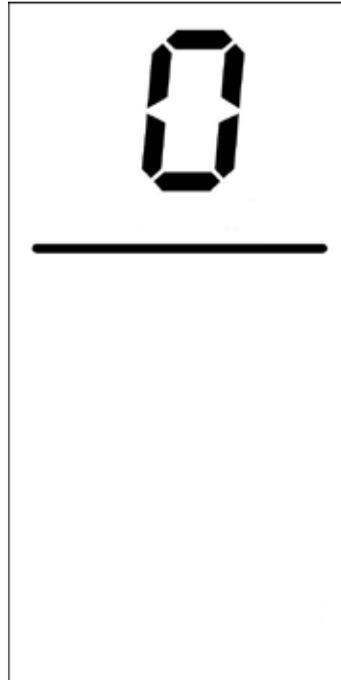

Figure 11-1: Setting the Backlighting Time
1. Press the **mode** button until the display in **Figure 11-1** appears.